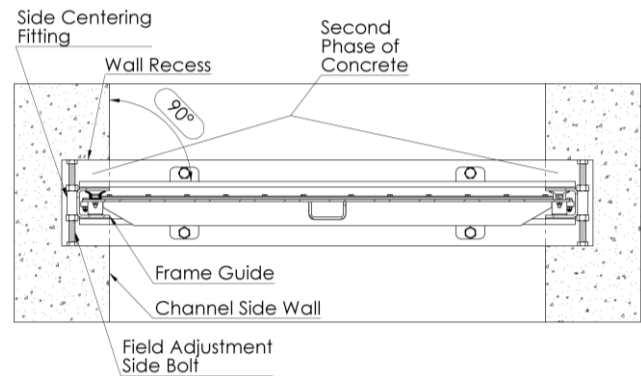

Figure 3
- Align the gate horizontally adjusting the bolts on the "Lateral Centering Fittings" (see Figure 3). Make sure that the Frame Guide is flush with the channel side wall. Additionally, make sure that the gate is perpendicular to the side walls of the channel